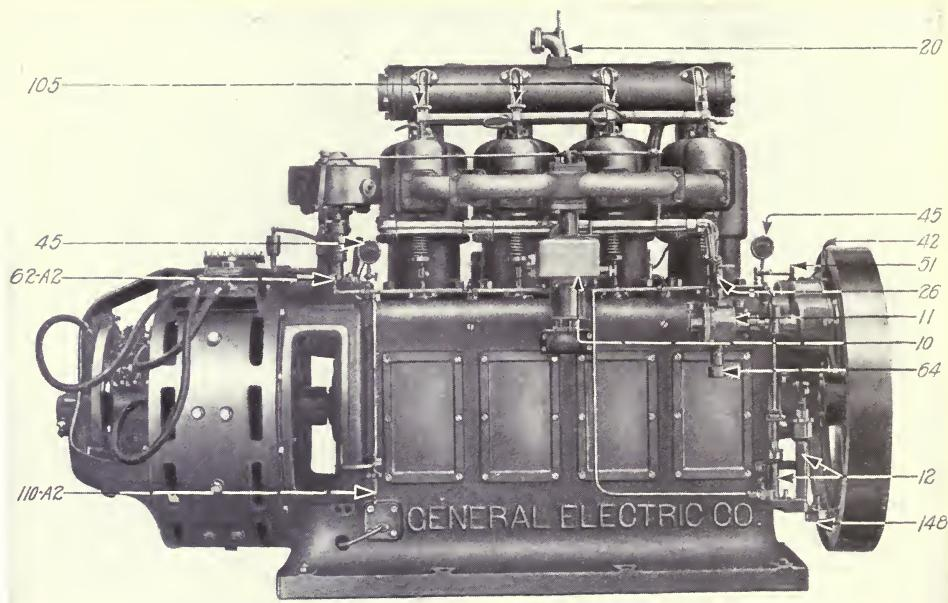

Fig. 70.
**57c. Miscellaneous parts; engine viewed from sides. (See Figs. 70 and 71.)**